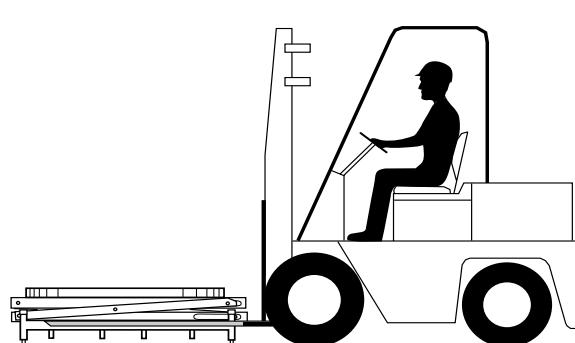

Figure 7. Moving the PL 2002
2. Insert the forks into the pockets in the base frame. See Figure 7.